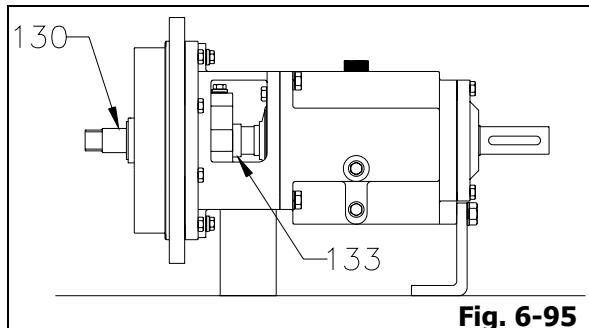

Fig. 6-95
11. Install shaft sleeve (133) assembly carefully onto shaft (130) until the lapped
surfaces of the atmospheric end mechanical seal (205) are seated on each others (Fig. 6-95).